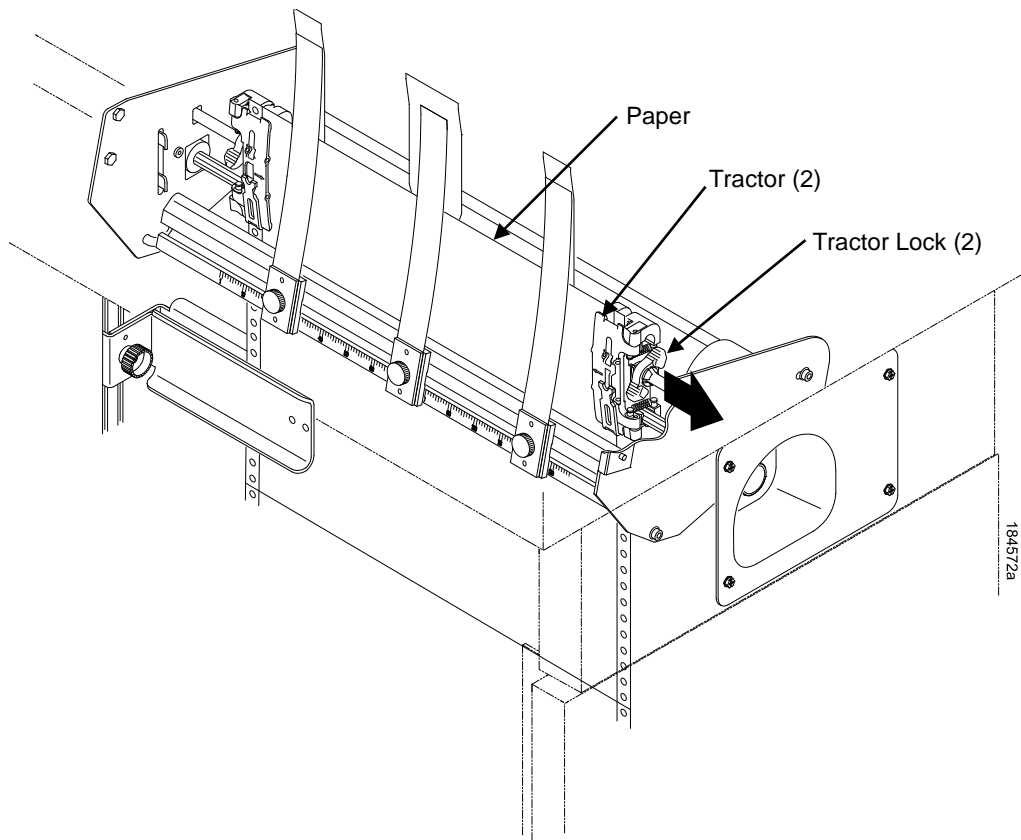

Figure 39 Adjusting the Horizontal Paper Tension
5. Adjust the paper web tightness by sliding the right tractor to remove slack or to adjust for various paper widths. (See Figure 39.)